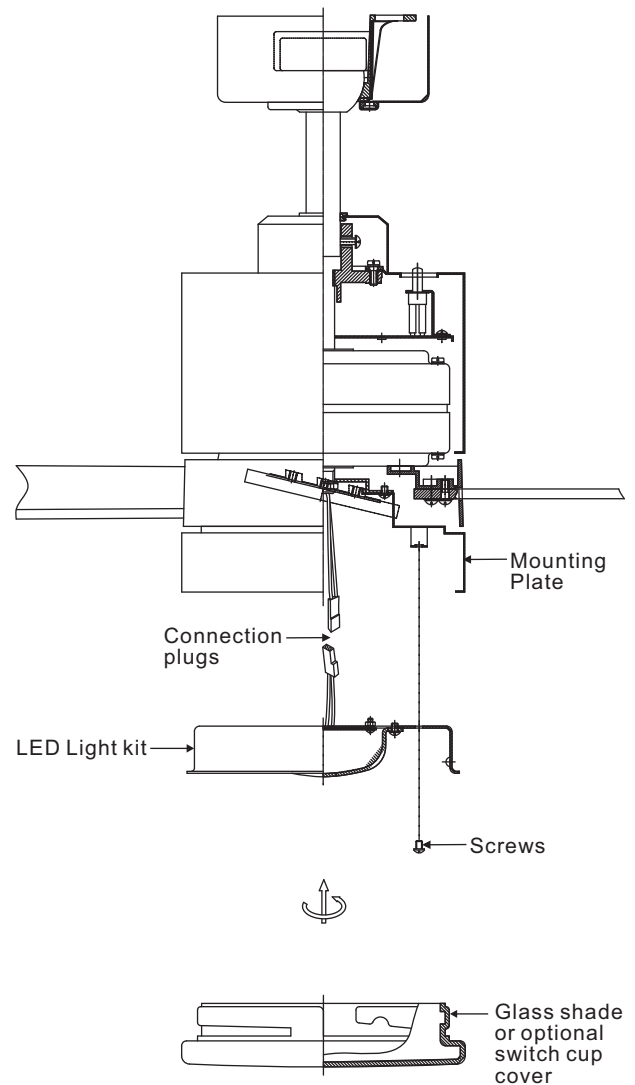

Figure 16
**Step 1.** Remove the 1 of 3 screws from the posts of the mounting plate and keep it for future use. Loosen the other 2 screws. (Do not remove) (Fig. 16)
**Step 3.** Place the key holes in the LED light kit over the two screws previously loosened from the mounting plate. Turn the LED light kit until the LED light kit locks in place at the narrow section of the key holes. (Fig. 16)
**Step 4.** Securely tighten the two light kit mounting screws previously loosened and the one previously removed. (Fig. 16)
**Step 5.** Raise glass shade up against the LED light kit, and secure it to fan by turning glass clockwise until snug. DO NOT OVERTIGHTEN. (Fig. 16)